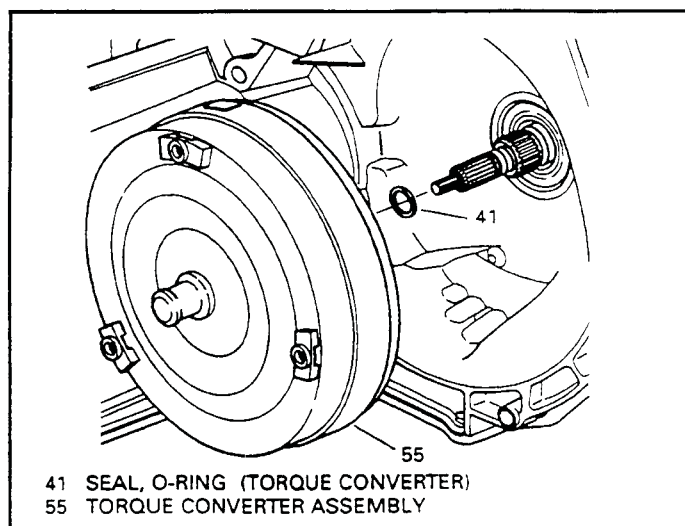

Figure 43
2. Remove the torque converter assembly from the transaxle as shown in Figure 43.
3. Remove the turbine shaft "O" ring (41) from the end of the turbine shaft (See Figure 43).